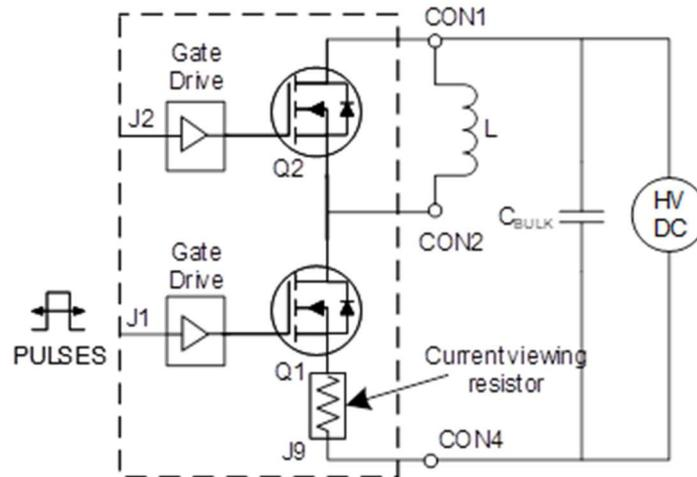

Figure 25: Clamped inductive switching measurement circuit
- Figure 25 shows the measured switching waveforms.